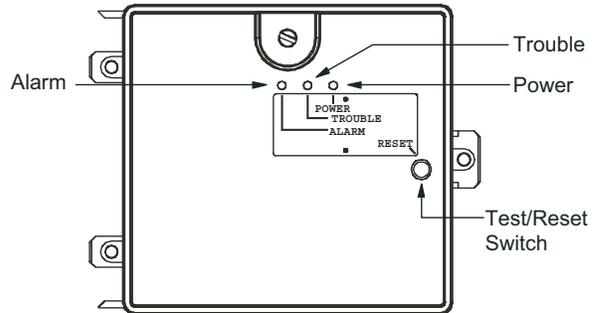

Fig. 53 – Controller Assembly
- The contacts on the controller's supervisory relay switch positions. (See Fig. 53.)